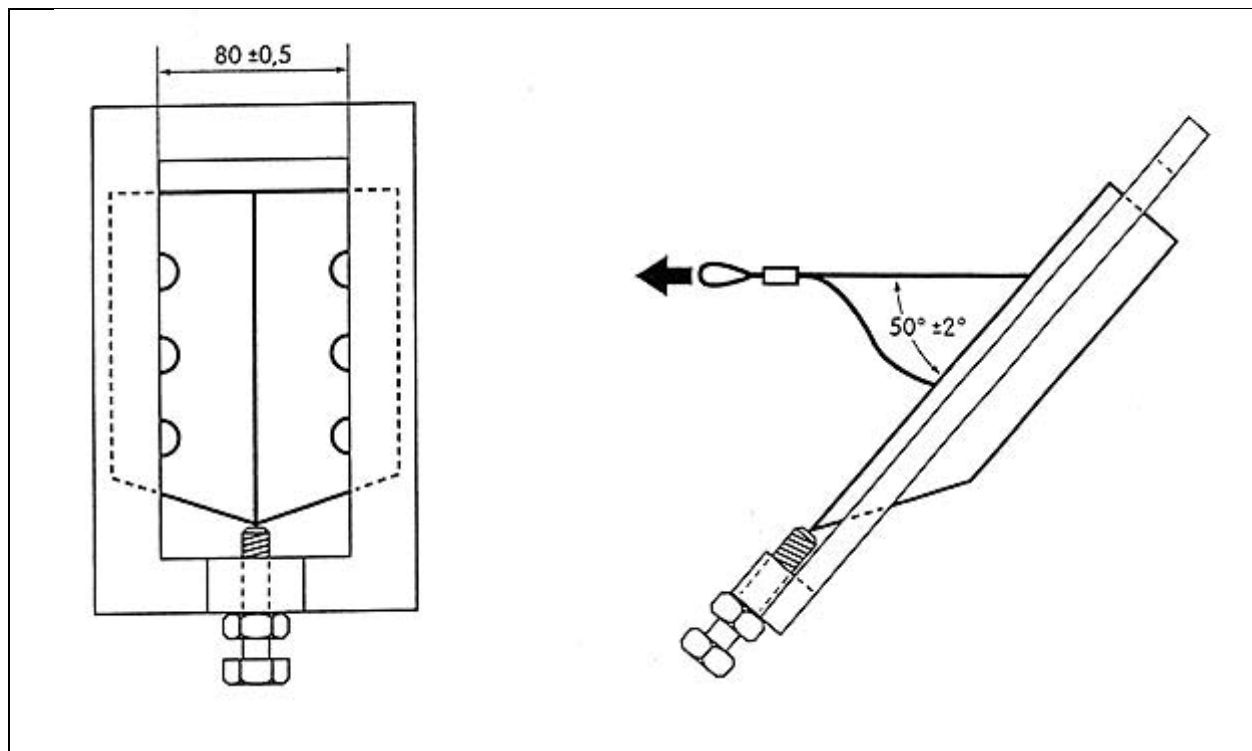

Figure 2
- 5.3.1 Apparatus – The test rig consists essentially of a frame with an interior width of  $(80 \pm 0.5)$  mm, the internal length shall be greater than the length of the test sample. See figure 2.
- 5.3.2 Procedure - The test sample is placed in the test apparatus in such a way that it does not slide and the force is applied to the means of attachment in accordance with the information to be supplied and at an angle of  $(50 \pm 2)^\circ$  with the surface of the test sample as shown in figure 2. The test sample is loaded until rupture and the peak force recorded.